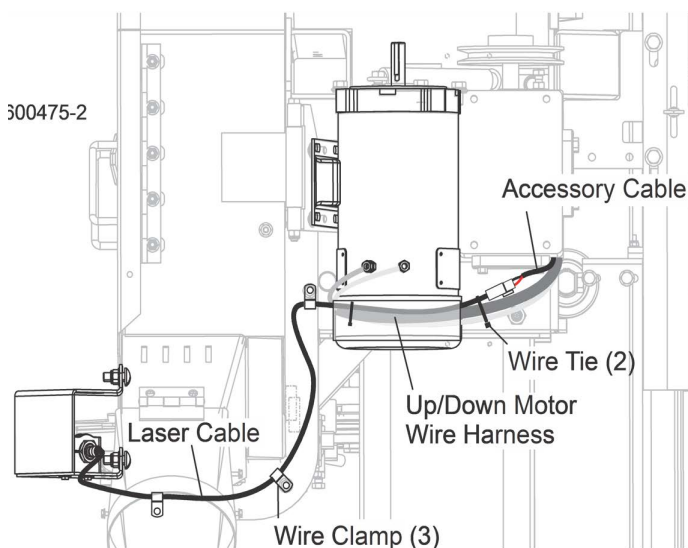

FIG. 1-2 REV. E.00+
5. Route the cable: **See Fig. 1-2.**